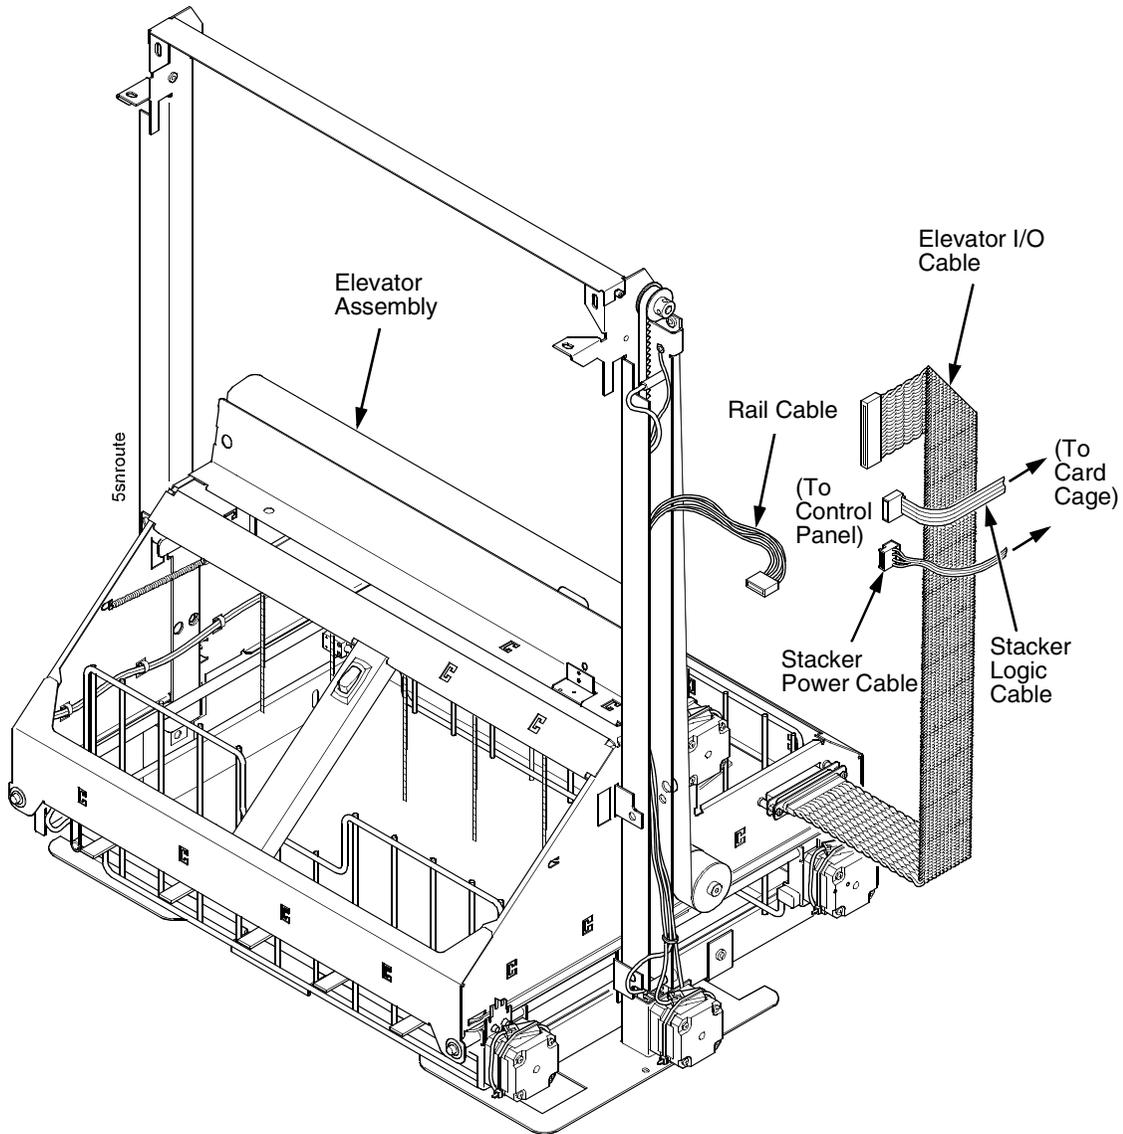

Figure 88. Stacker Cable Routing
22. Gather the stacker rail cable, elevator I/O cable, logic cable, and power cable. Route the cables outboard of the elevator assembly. (Figure 88.)